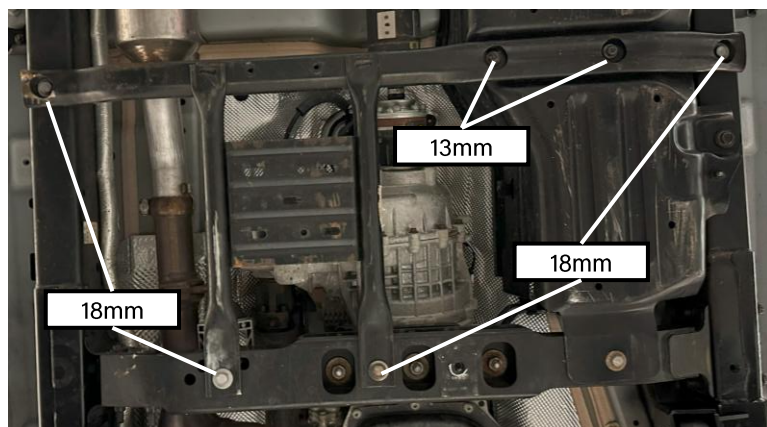

Figure 4: Transfer case skid plate bolts to remove
- ❑ Remove the transfer case skid plate using the socket sizes noted (Figure 4)